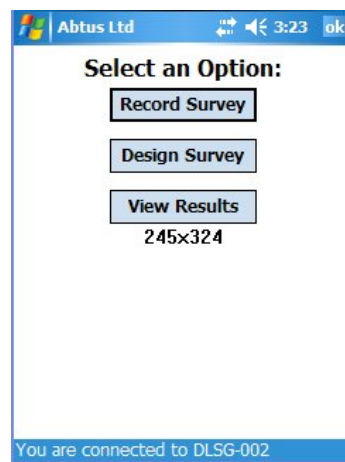

Figure 2
6. When the connection has been made, the ‘Options’ screen is displayed, see *Figure 2*.